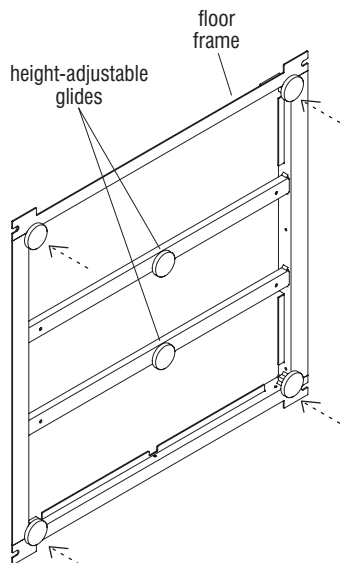

Figure 3
2. Twist the height-adjustable glides or seismic anchor plates in clockwise, fully to the bottom of the floor frame. This will allow for upward adjustment of the floor frame, if required at the final installation location (Figure 3).